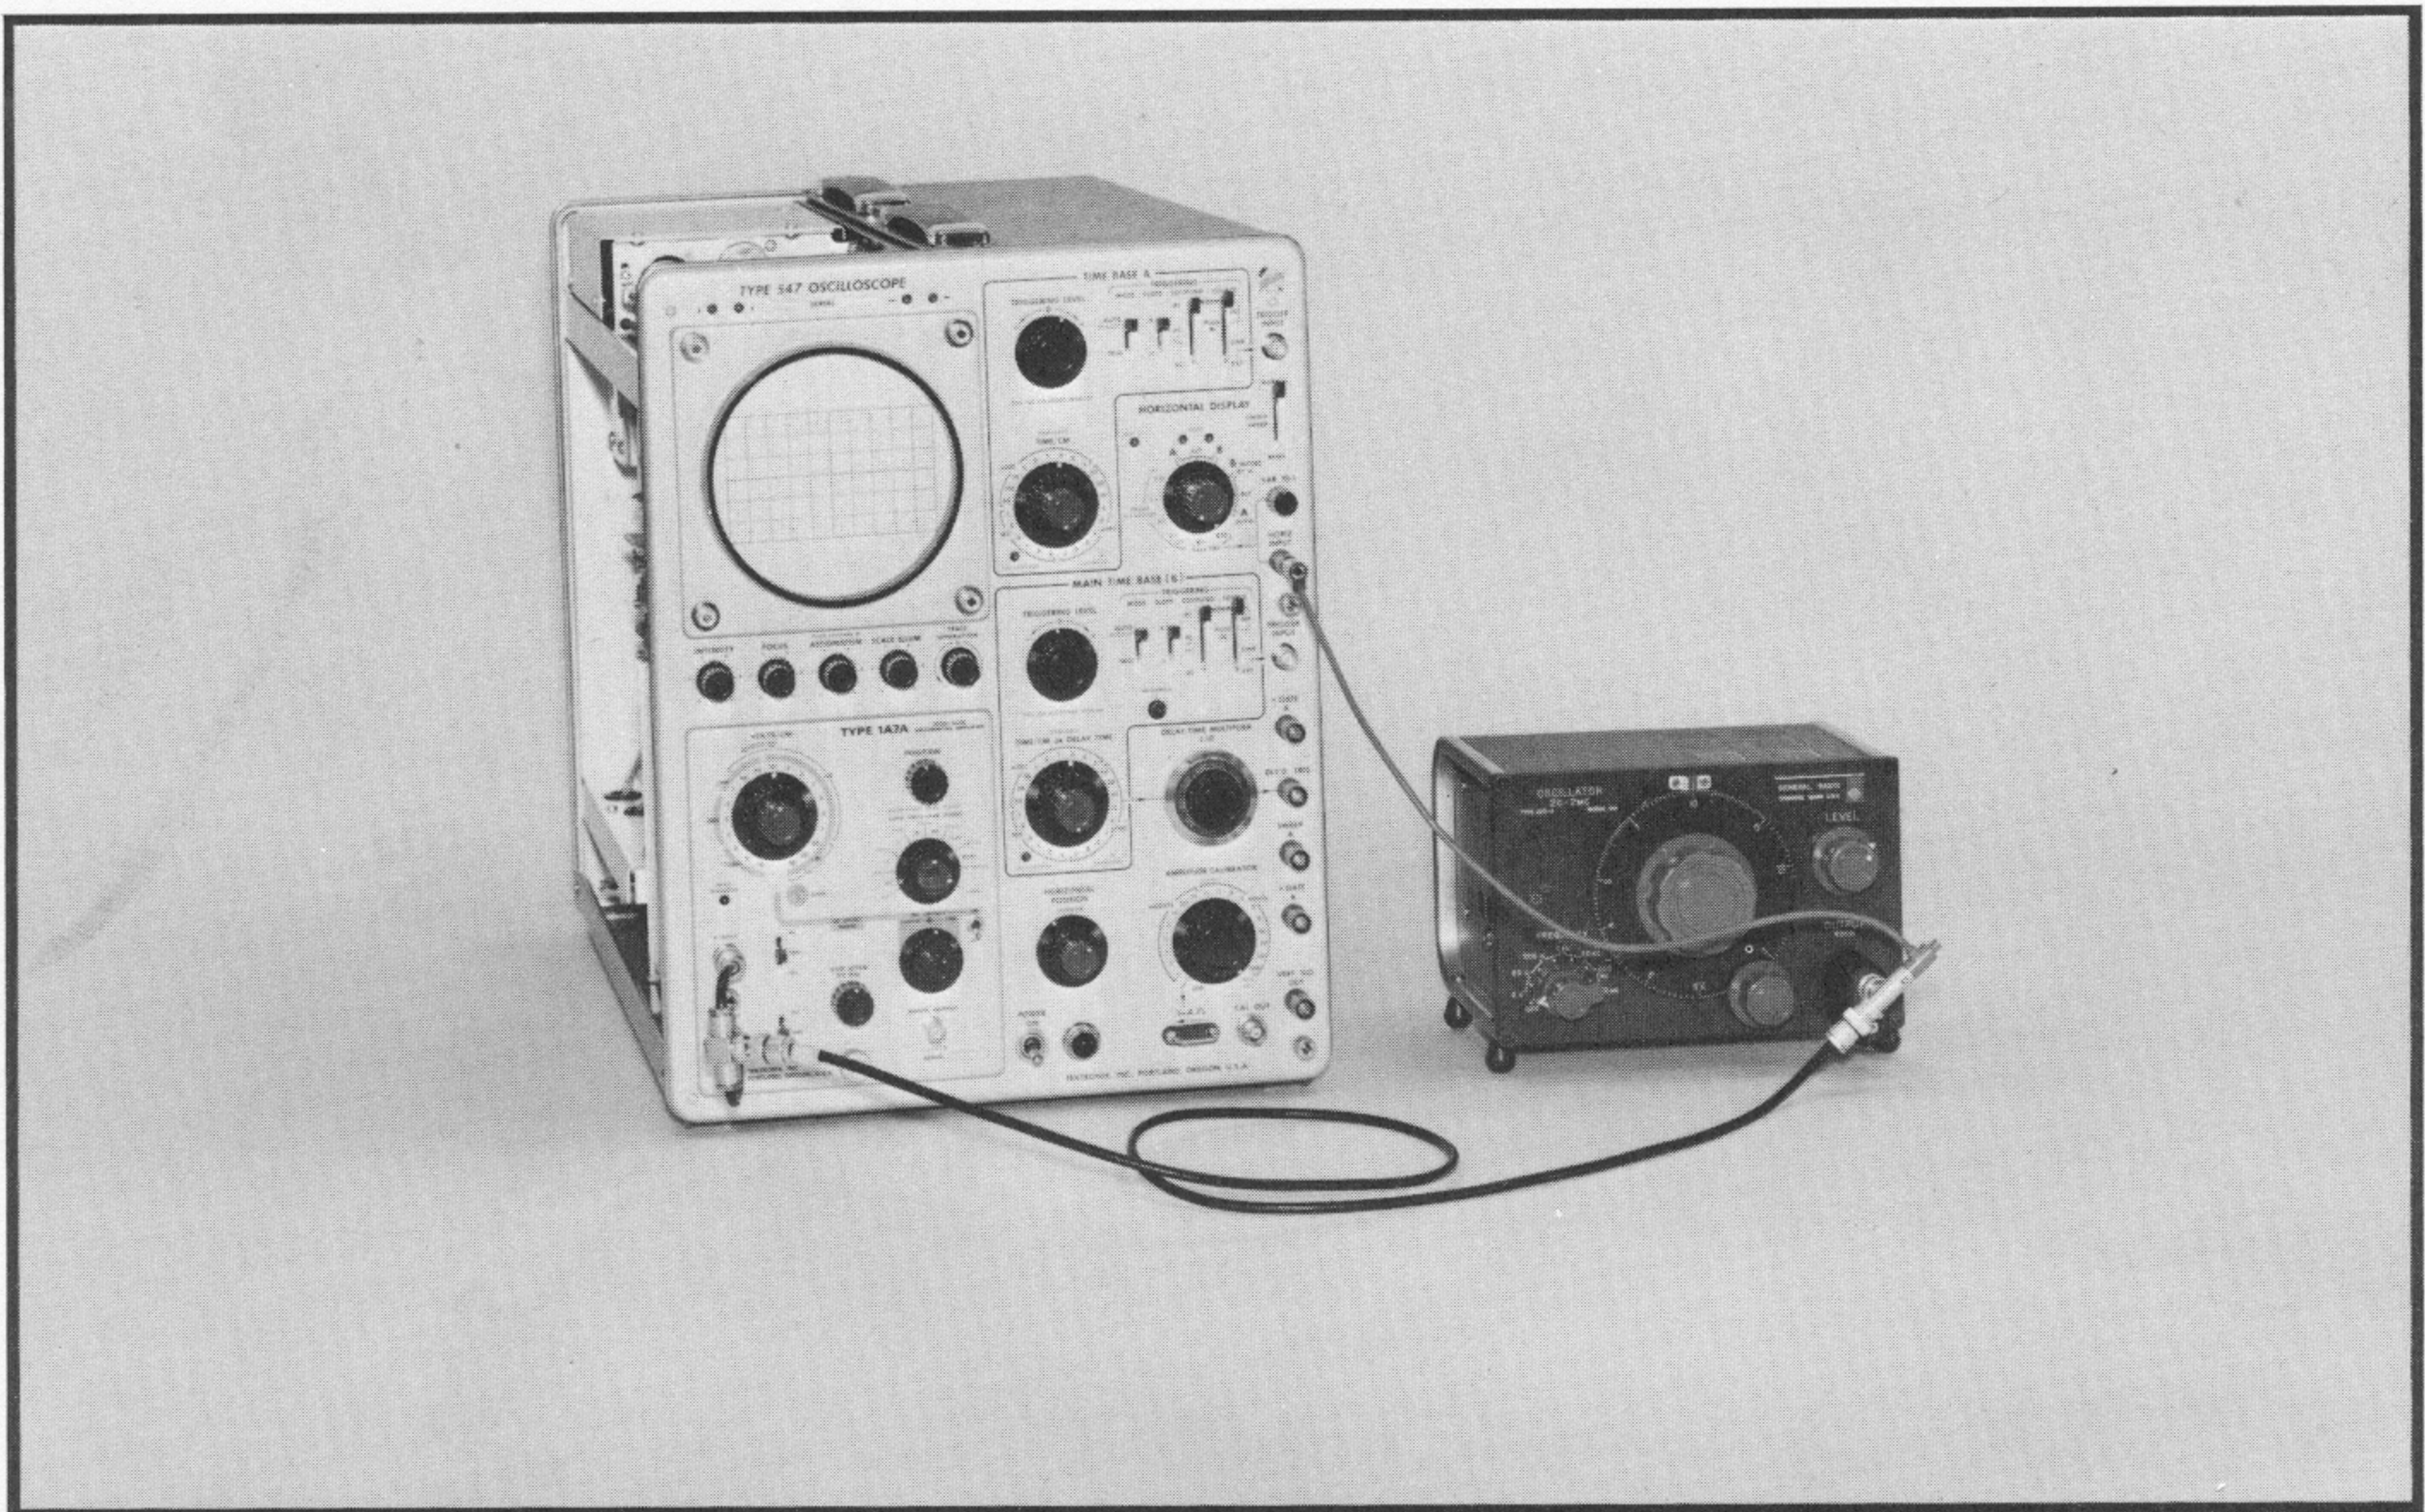

Fig. 5-24. Test equipment setup for steps 19 through 21.
d. Test equipment setup is shown in Fig. 5-24.